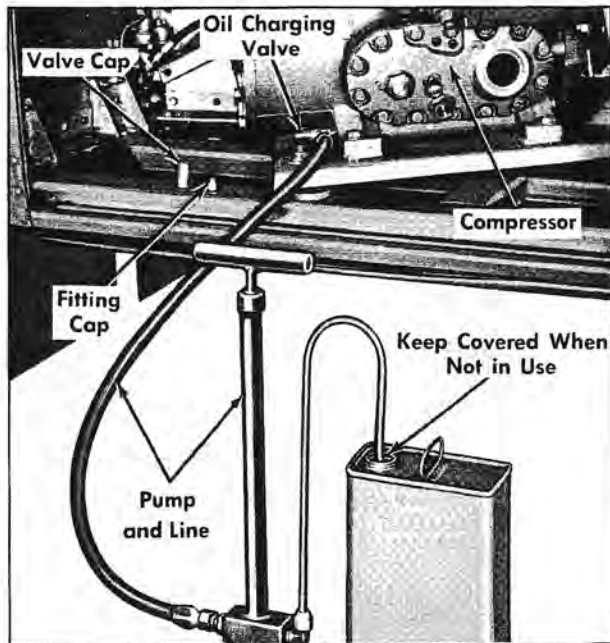

Figure 129—Adding Oil to Compressor (Typical)
**NOTE:** Compressor oil is added to compressor by means of a pump connected to valve at bottom of compressor as shown in figure 129. Pump can usually be obtained from local refrigerant sales and service dealer. Another known source is York-Detroit Contractors, 14385 Wyoming, Detroit, Michigan. Order by Part No. 70-10654.